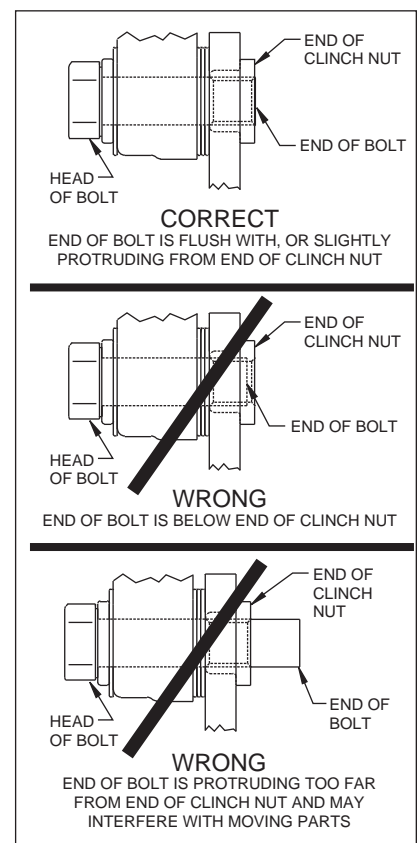

Figure 5.
- NOTE:** Please reference the caution statement at the beginning of the assembly instructions. Mount the caliper (5) onto the caliper mounting bracket (1) using two bolts (11) and two washers (12). View the rotor (6) through the top of the caliper (5). The rotor (6) should be aligned in the center of the caliper (5). If not, loosen the two bolts (11) and adjust the caliper (5) by using 0.035 inch thick shim washers (10). The shim washers (10) should be placed between the caliper (5) and the caliper mounting bracket (1). Finger tighten and recheck alignment. **NOTE:** The end of the bolt must be flush with or slightly protruding from the head of the clinch nut. See Figure 5. Place spare shims (10) between washer and caliper mounting ear to achieve the proper mounting fastener configuration. Add as many shim washers (10) as necessary to achieve the correct alignment. Always use the same amount of shims on both the top and bottom caliper mounting bolts (11). Loosen the two bolts (11) and apply red *Loctite*® 271 to bolt threads (11) and torque to 40 ft-lb. Caliper mount bolts may be safety wired for additional security.
- Install the disc brake pads (13) and secure using cotter pin (14). Repeat this procedure for the other wheel.